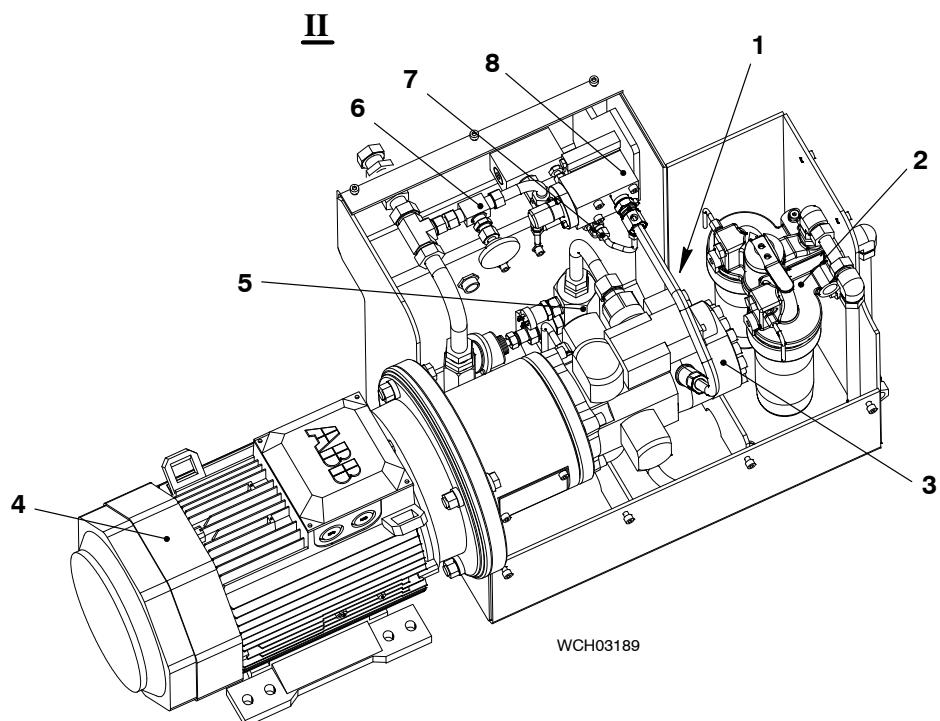

Fig. 3: Supply Unit for Pilot Fuel System
The pilot fuel pump (3, Fig. 3) increases the pressure of the pilot fuel to the applicable level (for the values, refer to 0230-1 Operation Data Sheet). The pilot fuel pump (3) is an electrically operated radial piston pump with a built-in overpressure bypass valve.